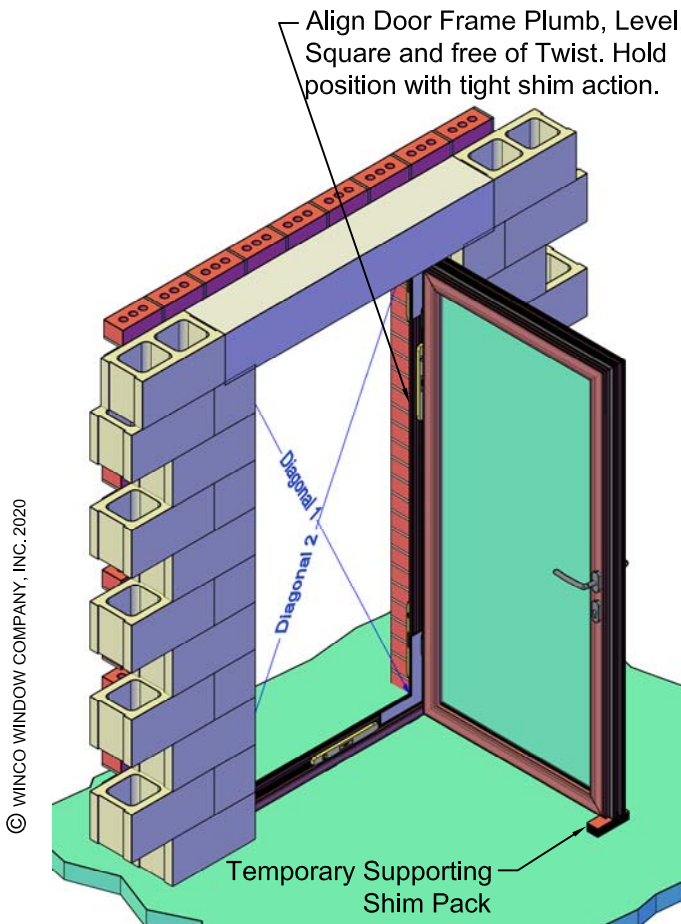

Fig. 5 Standard Sill - viewed from Building Interior
3) Check the Rough Opening for Plum & Square and adjust you door position accordingly. Place the door into the Rough Opening. Open the door and support the door leaf to achieve a plumb installation position front to back. Also ensure that the minimum sealant joint size as recommended by the sealant manufacturer is met or exceeded. Use shims to ensure the Hinge Jamb is true to vertical. Shims must support the frame at all anchor locations to prevent bowing, twisting or flexing of the frame. See Fig. 5